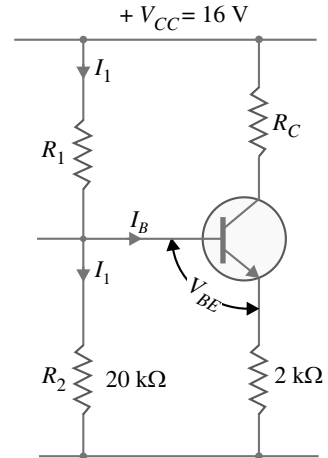

Fig. 7.36
**Example 7.31.** An npn transistor circuit (See Fig. 7.36) has  $\alpha = 0.985$  and  $V_{BE} = 0.3 \text{ V}$ . If  $V_{CC} = 16 \text{ V}$ , calculate  $R_1$  and  $R_C$  to place Q point at  $I_C = 2 \text{ mA}$ ,  $V_{CE} = 6 \text{ volts}$ .